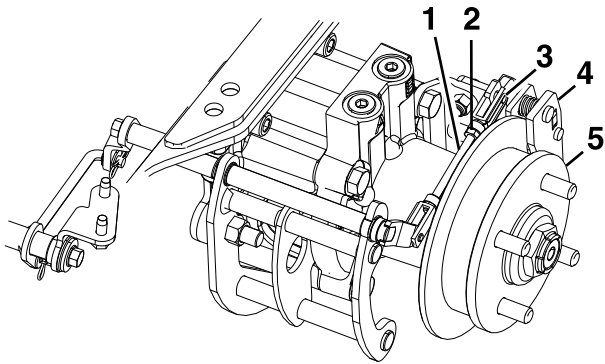

Figure 85
8. Remove the spring clevis pin from the rear linkage and caliper (Figure 85).
12. Tighten the jam nut on the rear linkage (Figure 85).